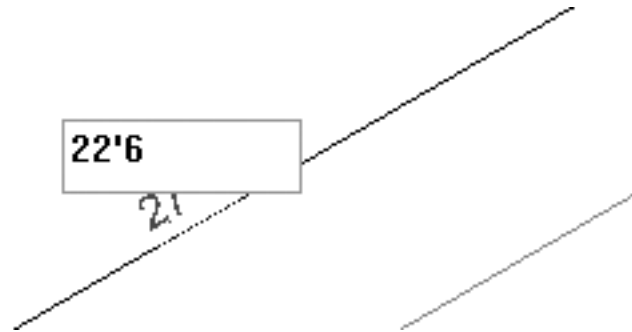

Figure 3-1.8 Editing dimension to change line length
18. Type **22 6** (i.e., 22 space 6) and press **Enter** (Figure 3-1.8).